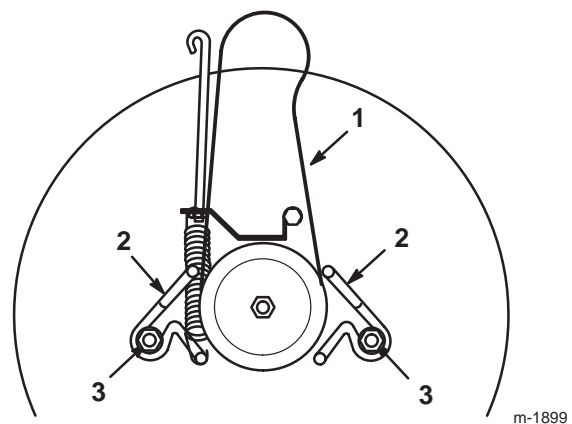

Figure 41
2. Loosen the belt guide mounting bolts and move the belt guides away from the pulley (Fig. 41).
1. Install the new blade drive belt around the blade pulley and inside both of the belt guides (Fig. 41).
2. Adjust the belt guides so they are 1/8 in. (3 mm) away from the pulley. Tighten the mounting bolts (Fig. 41).